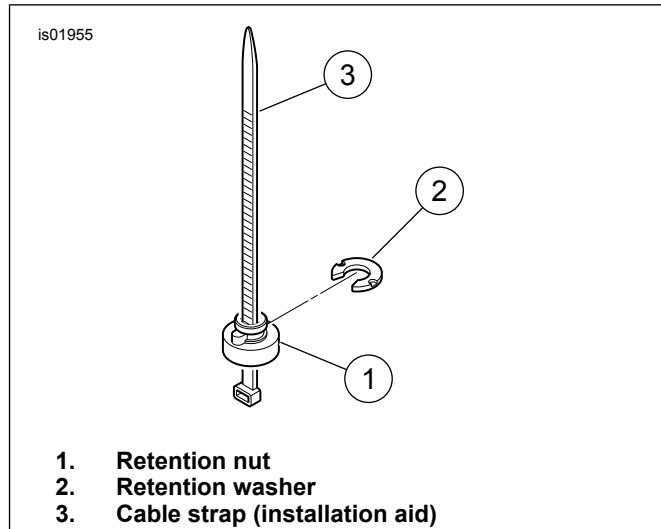

Figure 2. Retention Nut Installation
- a. See Figure 2. Place the retention nut (1) over the cable strap (3) so that the wide end of the nut rests on the eye of the cable strap.
- d. With the rib on the retention nut seated into the notch in the fender hole, slide the retention washer (2) into place from the rear (this locks the retention nut in place). Remove cable strap.